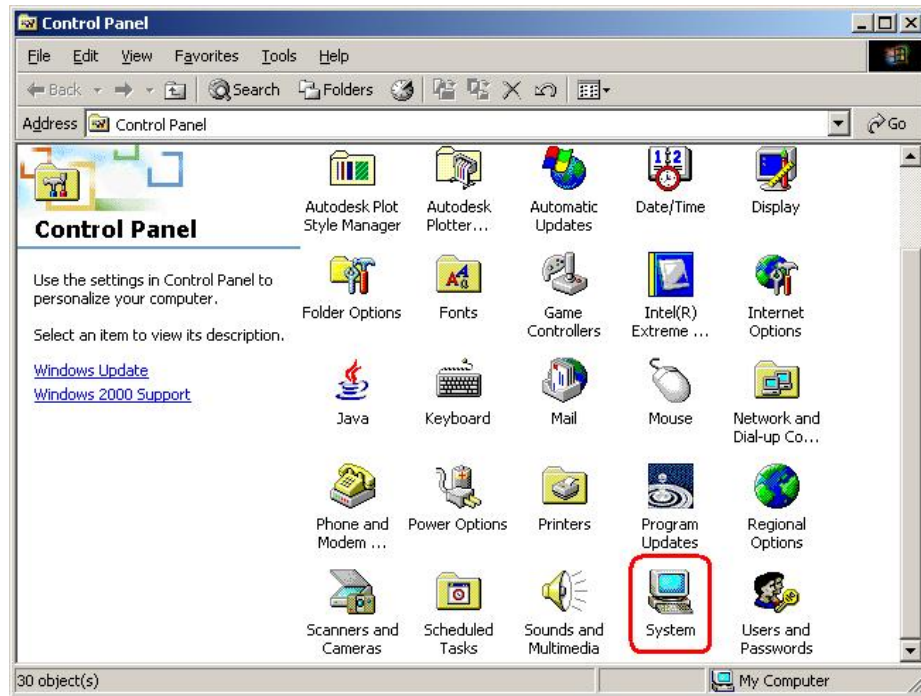

Figure 7-4: Double Click the System Icon
Step 2: Double click the **System** icon (Figure 7-4).